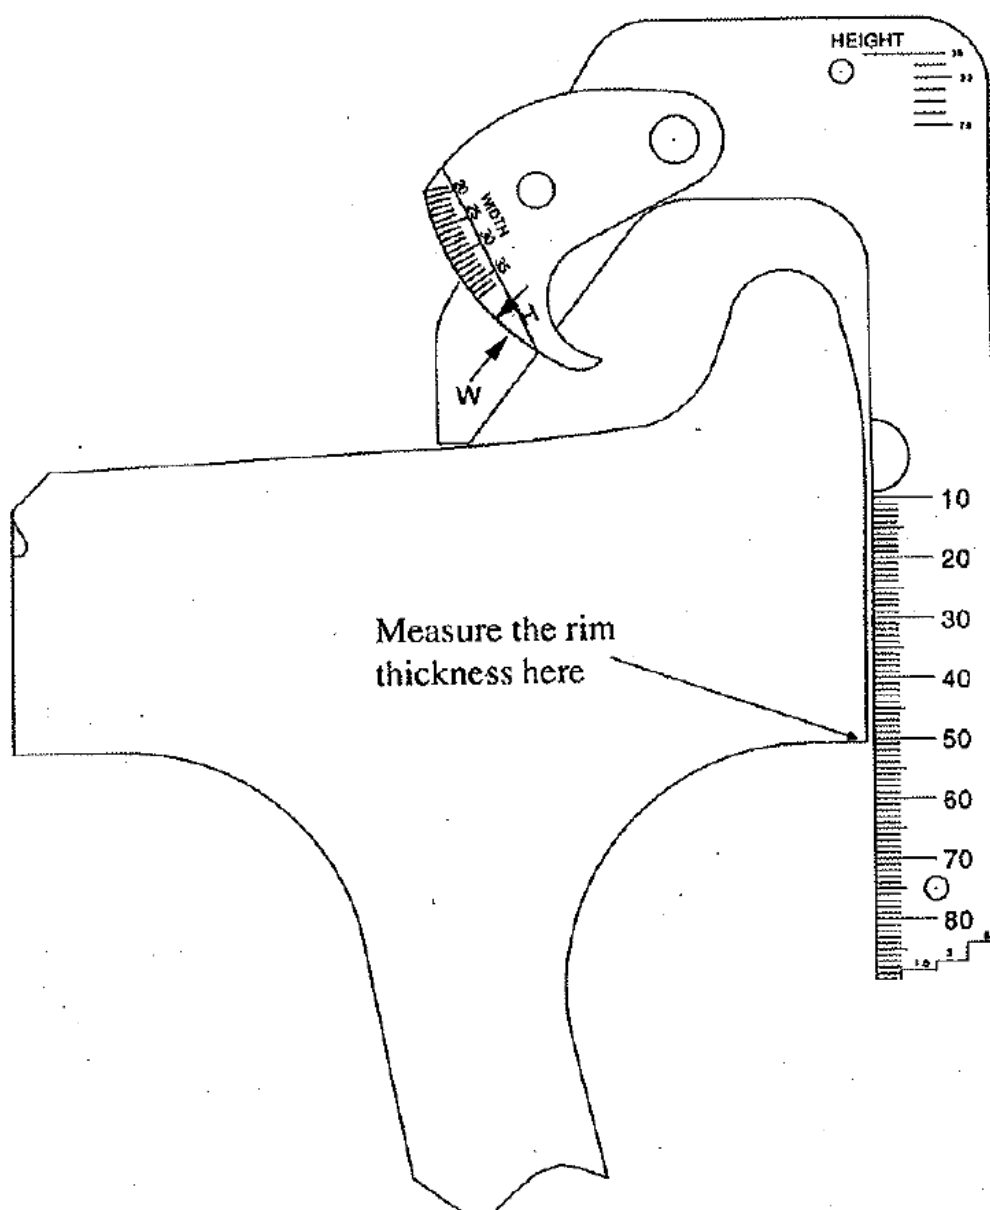

FIG 4. Measuring rim thickness. (In this example, the rim thickness is 51mm.)
1. Hold the gauge on the rim face or rim back, as shown in Fig 4 below, so that the bottom of the gauge is pointing towards the centre of the wheel and the tip of the arm is touching the wheel tread.